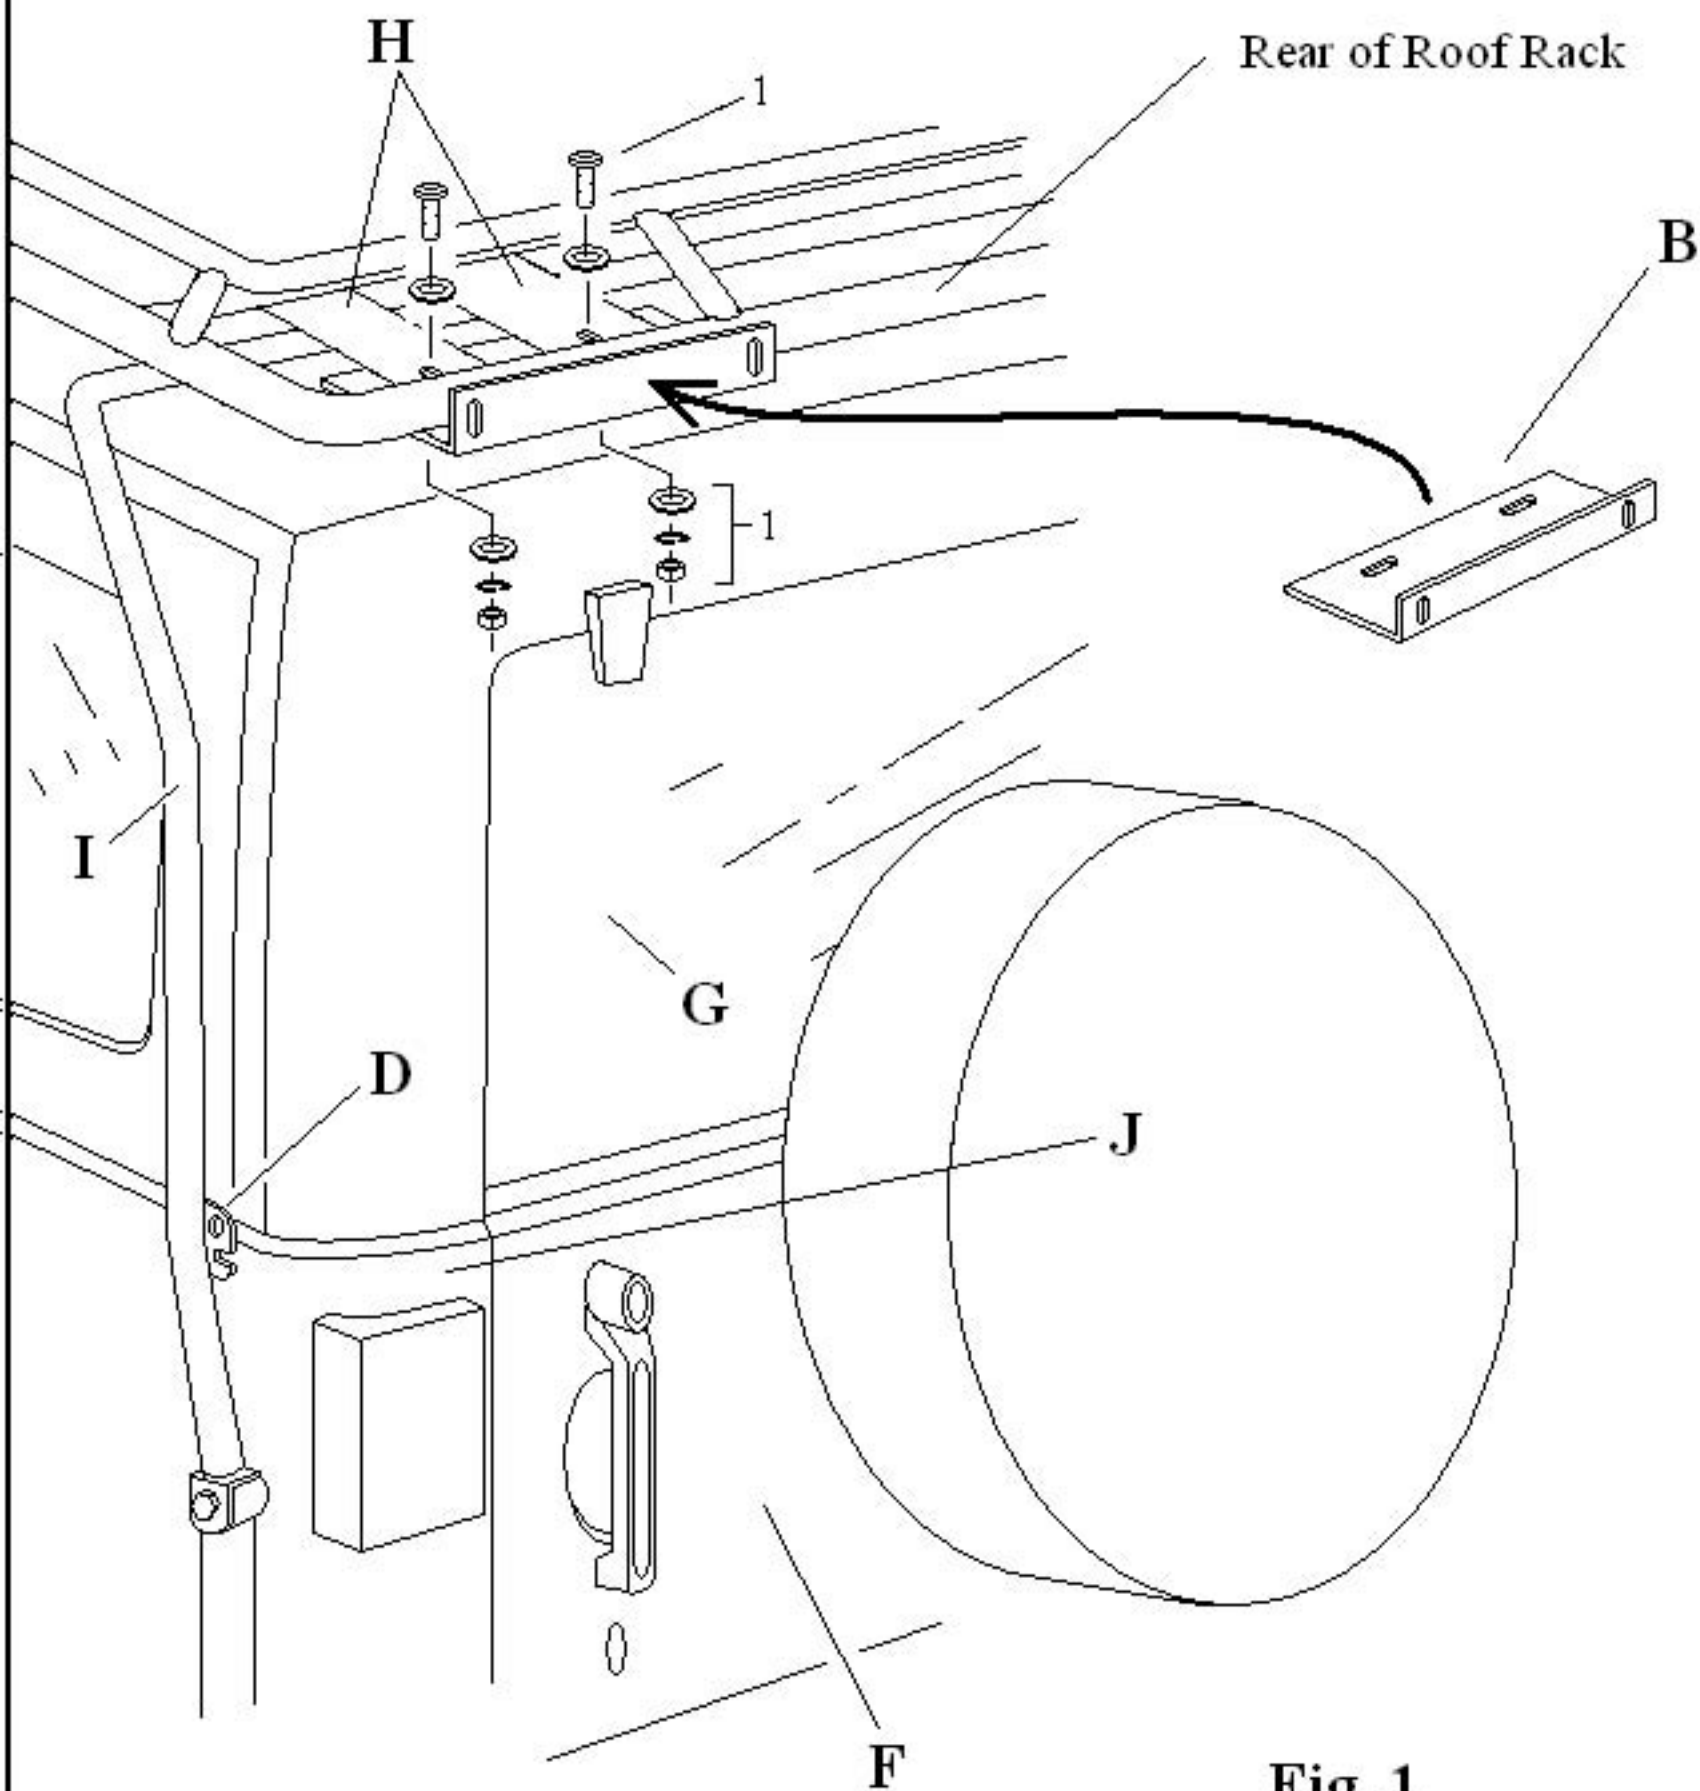
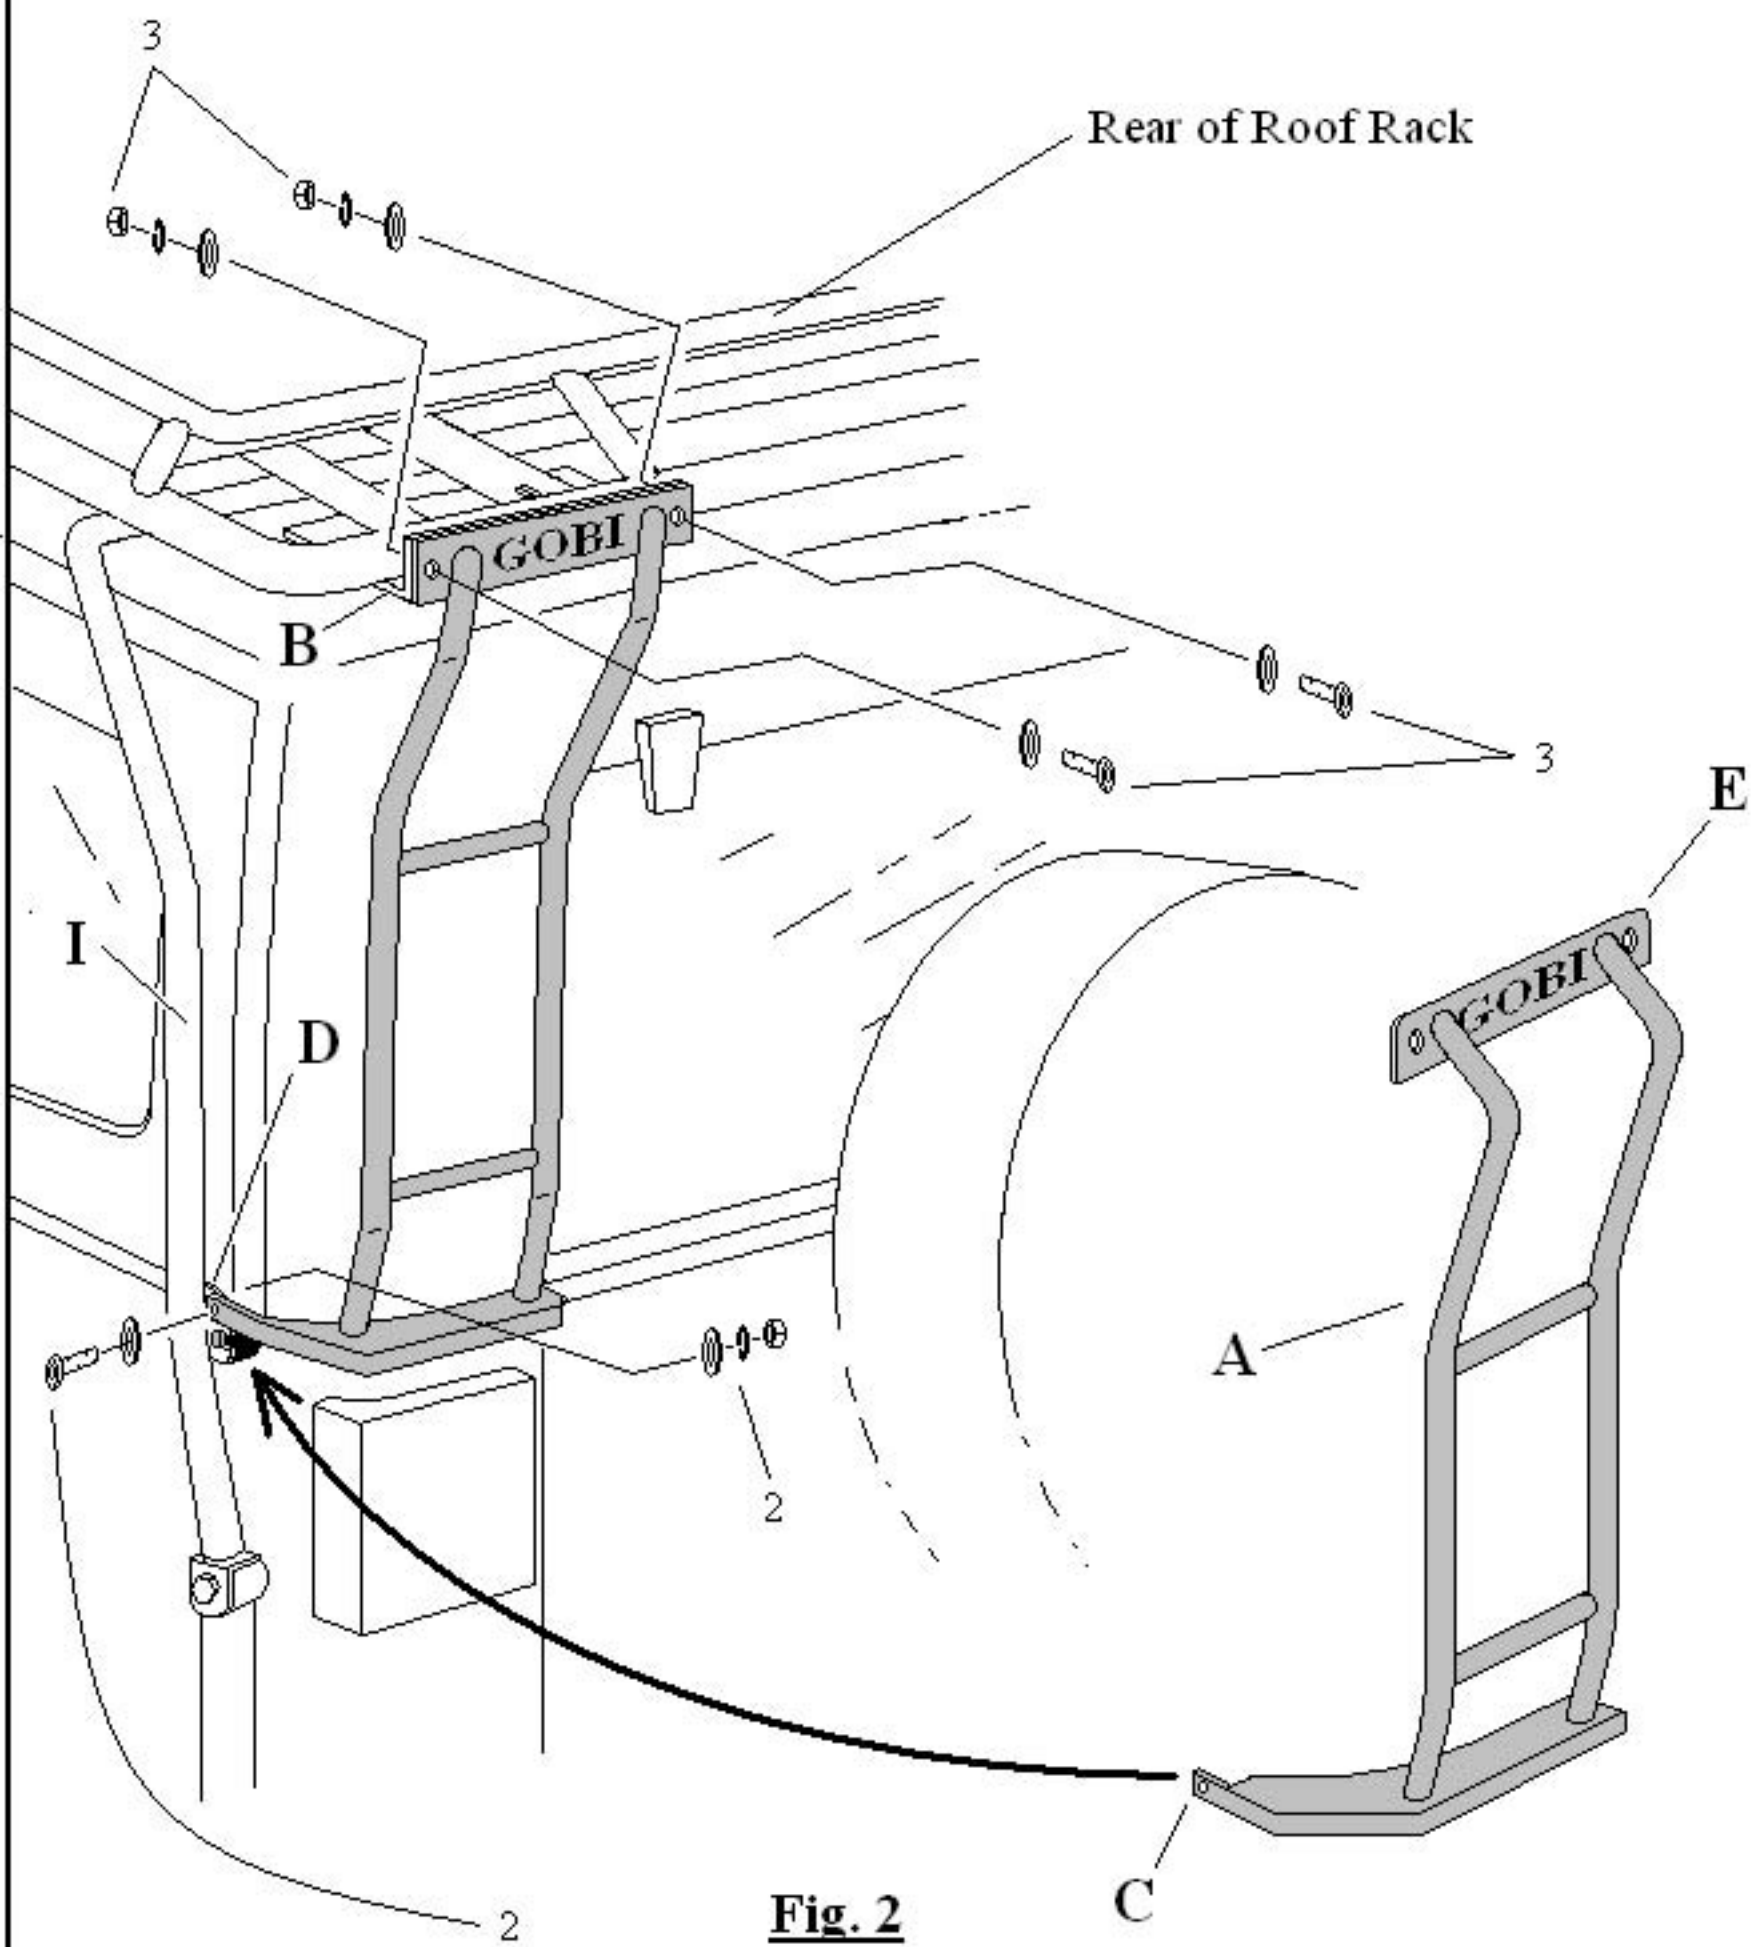

Fig. 1
Fig. 2
- 3- Refer to page 3 Fig. 1 and remove Hanger plate "B" strapped to Ladder during shipping. Use the 5/16-18 x 1" button head Allen screws, flat washers, lock washers and lock nuts #1 located in Bag #1 of your hardware kit to attach Hanger Plate "B" facing upwards as shown in Fig. 1 to the underside of either the rear passenger or drivers side welded in support plates "H". Choose the rear attachment side of the roof rack based on your ladder, passenger or driver side. Finger tighten screws only at this time.
- 4- Refer to page 4 Fig. 2 align the round hole of flange "c" located at the bottom end of ladder "A" to the outside of the round hole of flange "D" located on the Gobi Rack rear support bar "I" as shown on page 3 Fig. 1. Use the 3/8-16 x 1" hex bolt, flat washers, lock washer and nut #2 located in Bag #1 of your hardware kit and attach as shown in Fig. 2 page 4. Finger tighten hardware only at this time.
- 5- Refer to page 4 Fig. 2 and align top bracket "E" of ladder "A" to hanger plate "B" previously assembled to roof rack and attach using 5/16-18 x 1" button head Allen screws, flat washers, lock washers and lock nuts #3. Finger tighten hardware only at this time.
- 6- Refer to page 3 Fig. 1 and open rear door "F" completely at this time. Carefully lift rear door window "G" and make certain that clearance of at least 1/4" is available between the window at its highest point and ladder at its closest point to window. If needed ladder "A" can be moved and shifted away from the rear window using the slots in hanger bracket "B" as shown on page 3 Fig. 1. Once the adjustment has been made completely tighten Hanger plate "B" to roof rack welded in support plates "H" as shown in Fig. 1 page 3.
- 7- Refer to page 3 Fig. 1 "J" and clean a 2" round area of the vehicle body in direct contact with the rubber bumper which is attached to the bottom of ladder "A" using denatured alcohol. Then remove the 1" Round adhesived backed Brown wear pad from Bag #1 of your hardware kit and peeloff the protective film and apply the wear pad directly onto the vehicle body under rubber bumper. Continue to completely tighten securely screws 2 and 3 as shown on page 4 Fig. 2. All ladder "A" screws and bolts must be completely and securely tightened at this time. The ladder installation is complete.